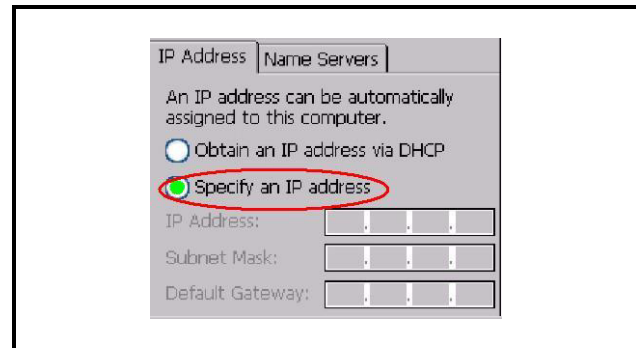

Figure 3-2 - IP Address Tab
6. From the *IP Address* tab, (*Figure 3-2*) choose **Specify an IP address**. (If using a Hostname for E2 instead of an IP Address, contact your